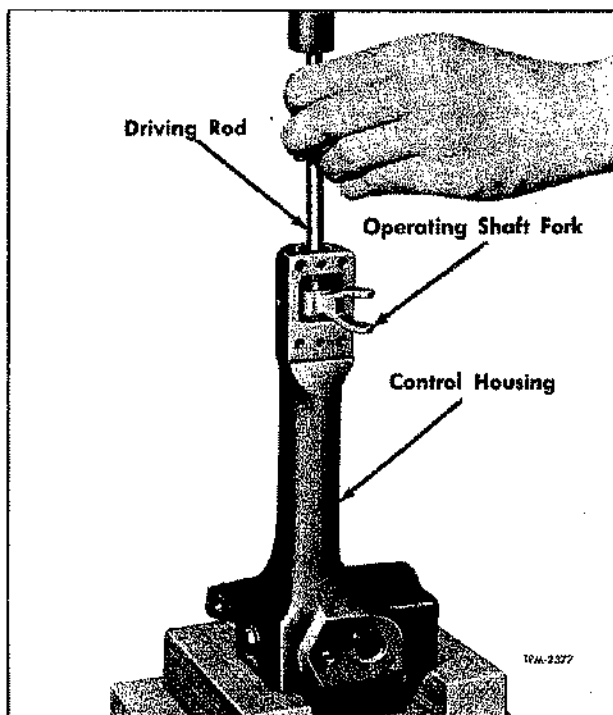

Figure 54—Removing Operating Fork from Governor Operating Shaft
4. Invert control housing and drive shaft from fork as shown in figure 54.